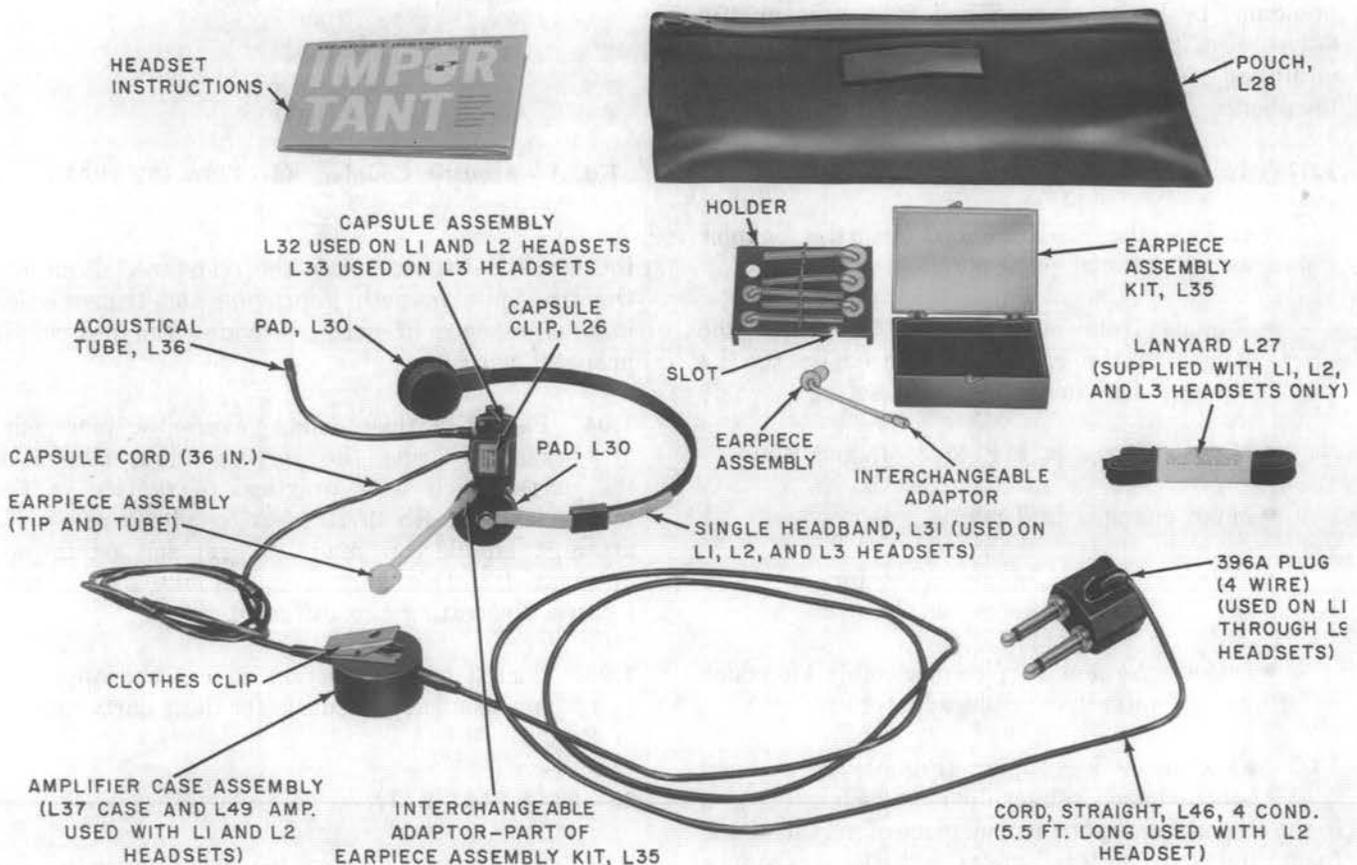

Fig. 2—KS-19796 L2 Head Telephone Set
- Make changes in Fig. 2, 3, 4, and 8.
2.01 Fig. 2 and 3 show the relationship of the various parts of the head telephone sets.
2.04 Fig. 2 illustrates a KS-19796 L2 head telephone set.